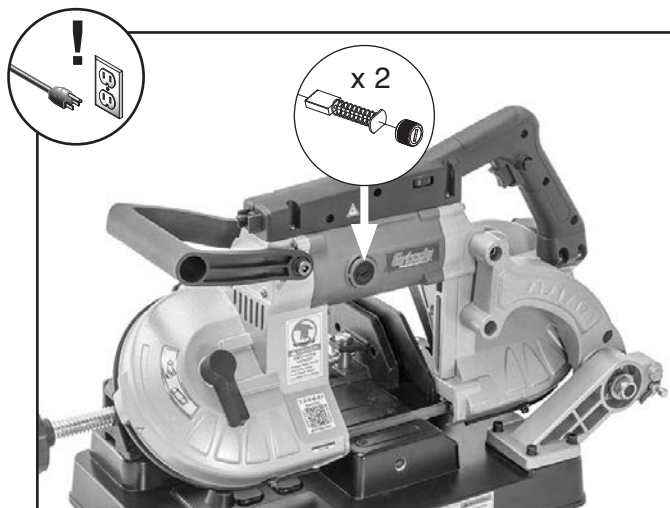

Figure 41. Location of brush caps.
2. Remove (2) brush caps and worn brushes (see **Figure 41**) from motor.